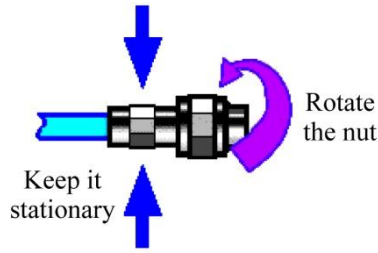

Fig. 3.5 Connection Method
Step 2: as shown in Fig. 3.5, horizontally move two connectors to make them connected smoothly. Tighten the connector nut by means of rotation (do not rotate the connector). Avoid relative rotation of connectors during connection.